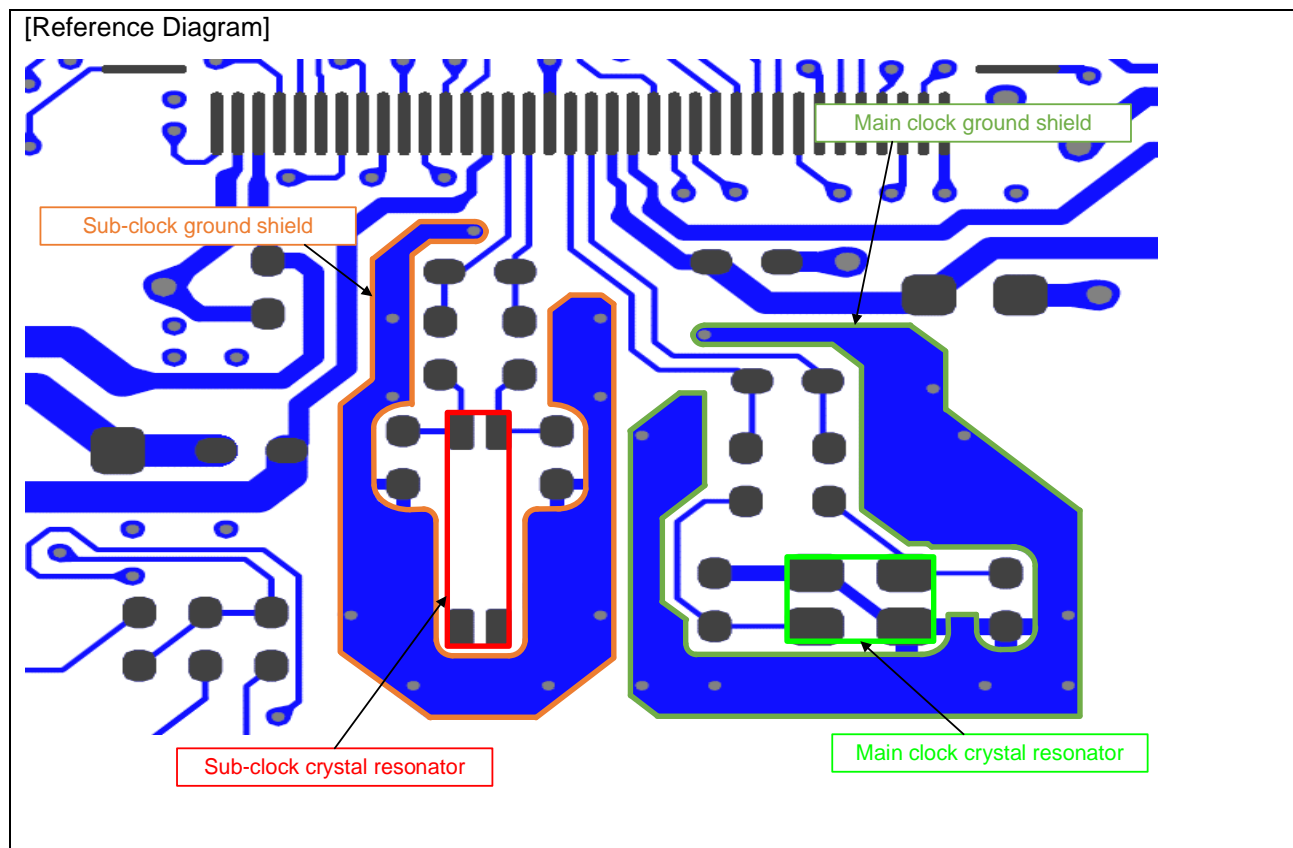

Figure 3.12 Trace Example When Shielding the Main Clock Resonator Wiring with Ground
(1) describes points on wiring the main clock resonator, and Figure 3.12 shows a trace example.